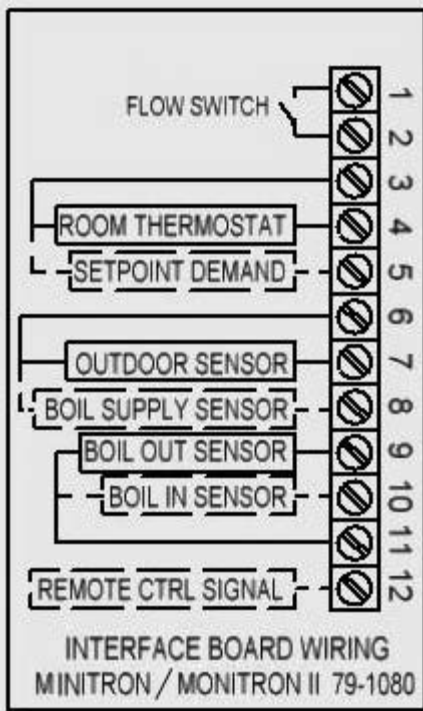

Figure 5. Electrical Connections
- The right-hand compartment under the Control Panel Cover contains a terminal board marked, (SLANT/FIN "INTERFACE BOARD"). Wire a 2-wire 24V room heating thermostat or the auxiliary end switch terminals of zone valves (see Figure 5) to terminals 3 and 4 at this time. The 1 and 2 terminals are for the flow switch. The flow switch circuit is a low voltage circuit.
- A. All circuit breakers ahead of and at boiler must be OFF. Remove the Service Connection Panel (right hand front). Cover by removing 5 screws from the top, bottom and side flanges (see wiring diagram on back of the Service Connection Panel and Figure 5).
Close bypass valve. Turn down all zone thermostats. Inspect all zone valves to be sure all are closed. Put a jumper on thermostat terminals 3 and 4. Close ALL panels and turn on the 10 AMP control circuit breaker ONLY. Be certain that the flow switch wires are not connected to the flow switch terminals 1 and 2 and the ends of the wires are taped. Be certain that a jumperwire is between terminals 1 and 2. Connect the ohmmeter or other continuity tester across the flow switch common terminal and the terminal that is normally open during NO FLOW. Slowly open bypass valve until continuity tester lights or ohmmeter kicks to zero: flow switch now has closed contacts, indicating required minimum bypass flow rate when piping circuits are shut off. Bypass valves should be locked at this position. Shut OFF ALL circuit breakers ahead of and at boiler and open CONTROL PANEL (left hand FRONT) COVER. Remove jumper on thermostat terminals 3 and 4. Remove flow switch jumper wire from terminals 1 and 2. Connect flow switch wire to flow switch terminals 1 and 2. Replace CONTROL PANEL COVER. Connect zone valve end switches (in parallel) to thermostat. See Figure 5 and wiring diagram on boiler.